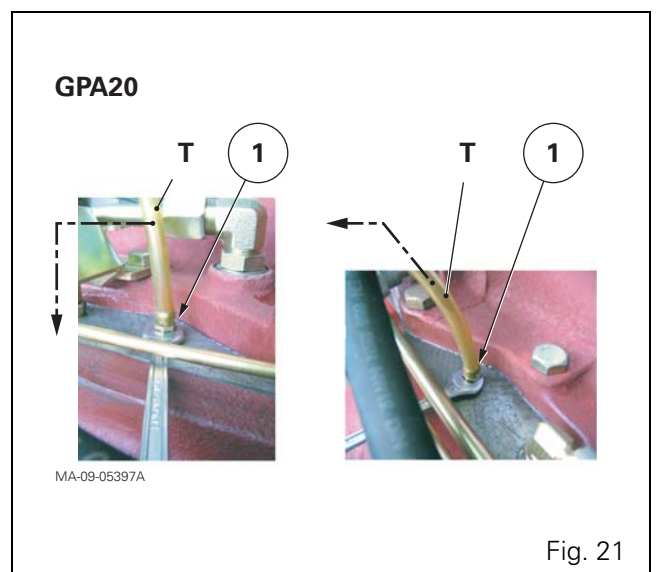
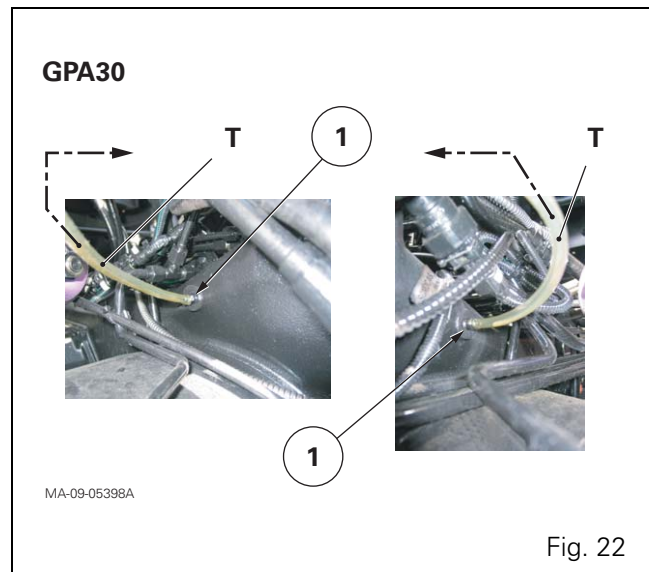
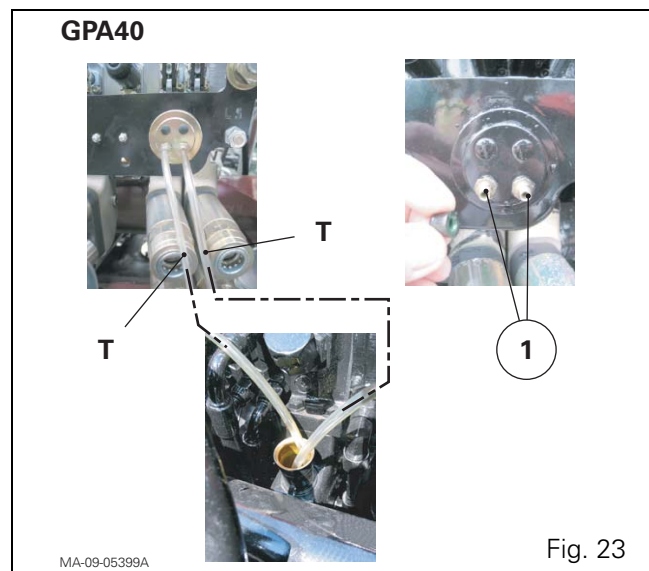

Fig. 21
Fig. 22
Fig. 23
8. Connect a transparent pipe (T) to each bleed screw (1) (right and left) of the centre housing (Fig. 21, Fig. 22, Fig. 23).